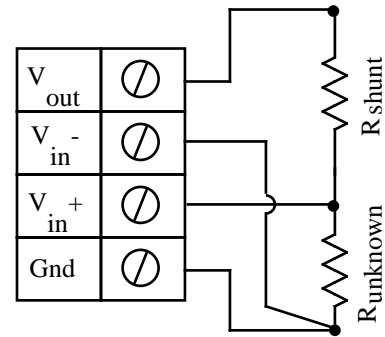

Fig 3.16 - Temperature Measurement (Thermistor) Voltage Divider Circuit
2. Wire your thermistor per figure 3.16, and refer to the steps at the beginning of this chapter for more information on how to set up your sensor. To reduce noise, 0.001 seconds of integration is often helpful (i.e. set the Integrate field in the Hardware setting area to 0.001) ^{5, 10}.